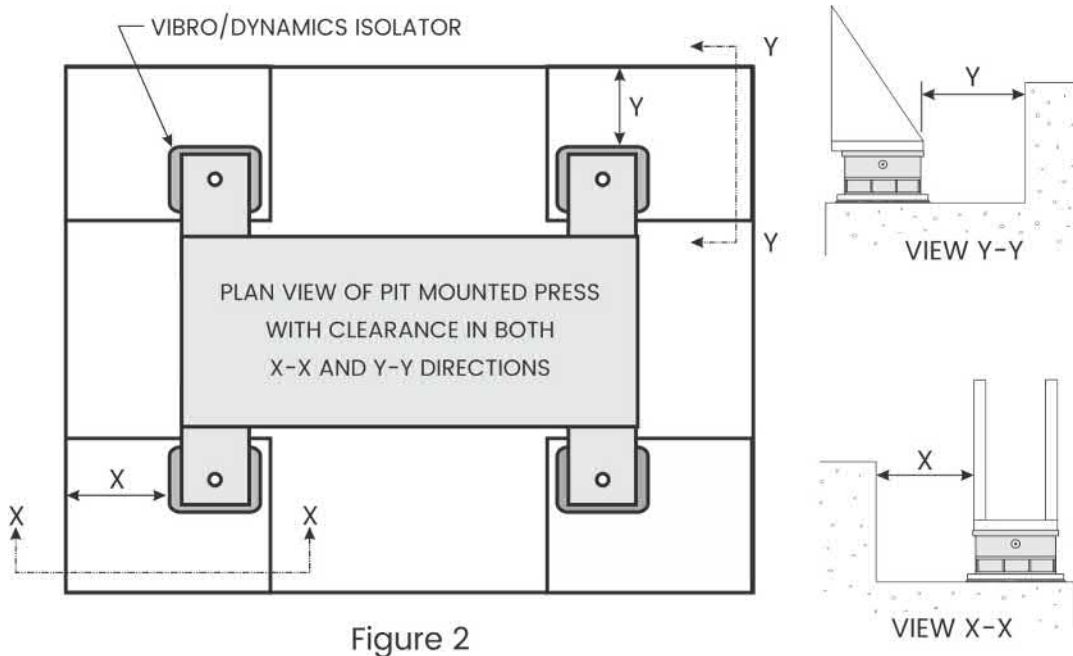

Figure 2
4. Clearance should be provided in either the X or Y direction to allow for the installation or removal of the isolators. See Figure 2. Dimensions X and Y should be slightly greater than the corresponding isolator dimension. *For example*, dimension X should be greater than the length of the isolator or dimension Y should be greater than the width of the isolator. Refer to the Isolator Specification Sheet for dimensions.